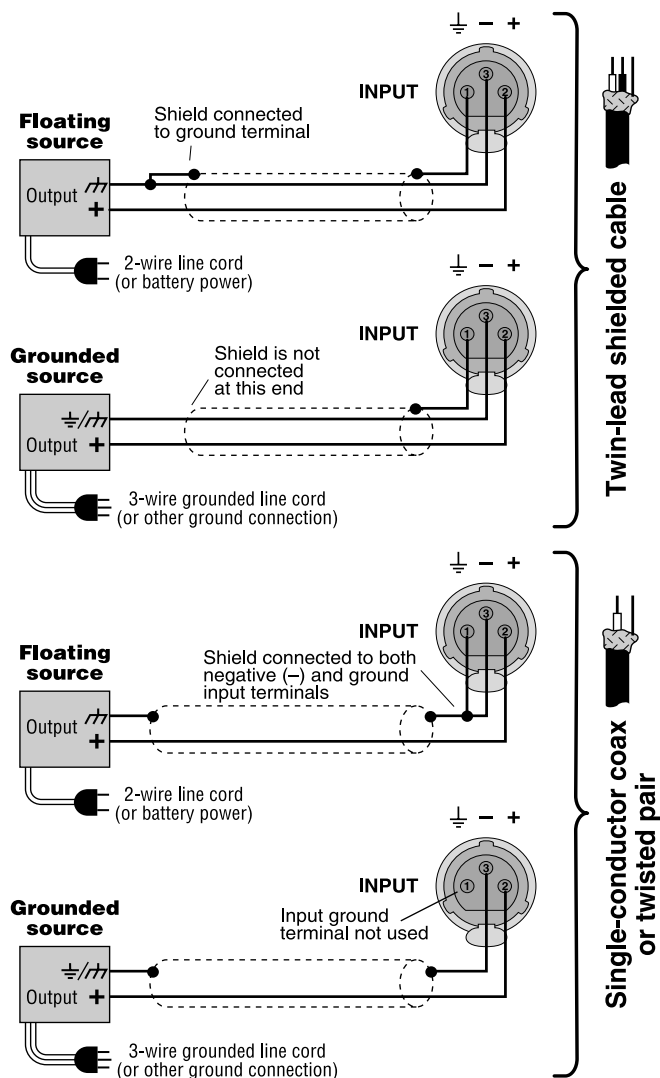
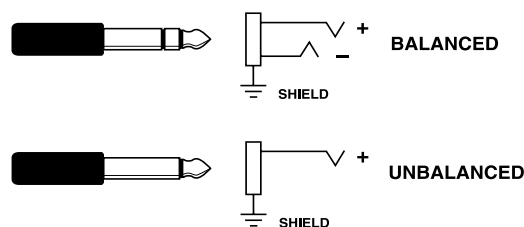

Fig. 3.5 Unbalanced Input Wiring
Fig. 3.7 Balanced and Unbalanced Phone Plug Wiring
Both the balanced XLR and phone jack inputs have a nominal impedance of 20 k ohms (10 k ohms with unbalanced wiring) and will accept the line-level output of most devices. Female XLR input connectors are provided on the standard P.I.P.-FX input module (other PIP modules are described in Section 8.1). Correct input wiring will depend on two factors: (1) whether the input signals are balanced or unbalanced, and (2) whether the signal source floats or has a ground reference. Figures 3.7 and 3.8 show the recommended connection techniques for each type of signal source.
a standard tip-ring-sleeve (TRS) configuration: the tip is positive (+), the ring is negative (-) and the sleeve is ground (see Figure 3.7). Wiring for various sources follows the XLR wiring guidelines shown in Figures 3.5 and 3.6.